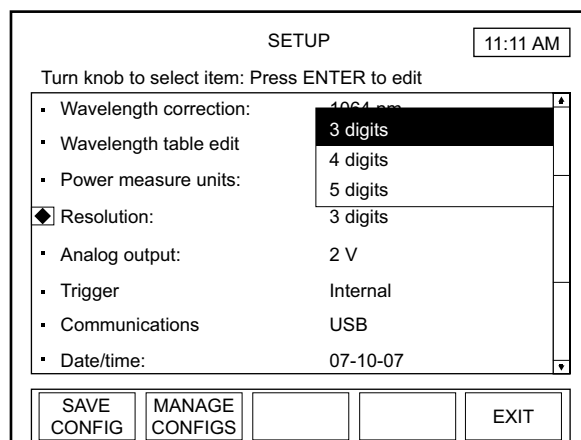

Figure 4-40. SETUP: Resolution
2. Press the ENTER/SET button to display a dropdown list of available resolutions (similar to the list shown in Figure 4-40).